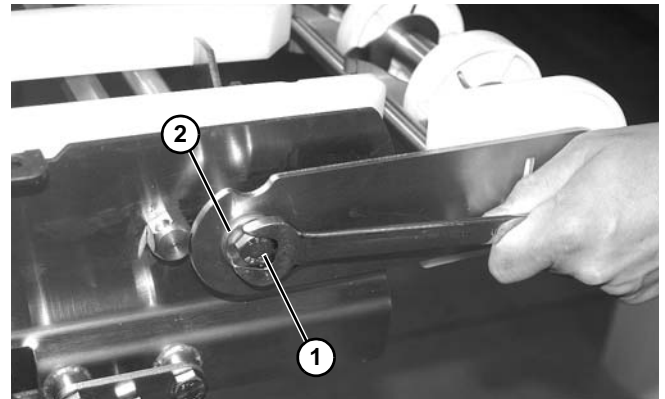

Figure 64
2. Remove screw (**Figure 64, item 1**) and washer (**Figure 64, item 2**) on each side of idler end.